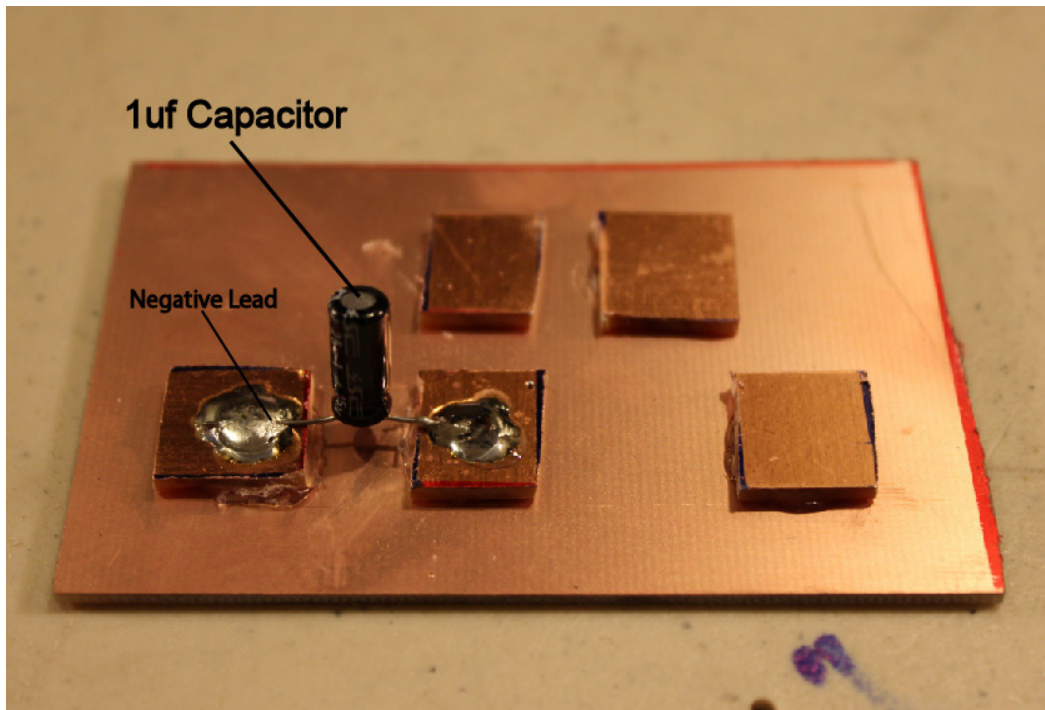

Figure 6
- One at a time, re-heat the solder blobs and place the capacitor leads into them, allowing them to cool down until they stay in place. (See figure 6)